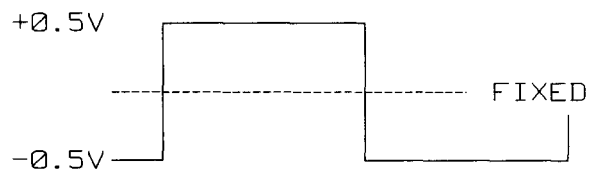

Figure 10.4-10. Shaper IC Output (FIXED, HIL +0.99 V)
9. Check the output on TP6 against Figure 10.4-10